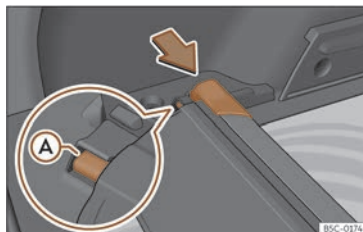

Fig. 178 In the boot: space to store the retractable shelf.
- Press the head of the retractable shelf in the direction of the arrow until it engages in its housing >>> Fig. 178. Make sure that slide ① fits into the corresponding housing.